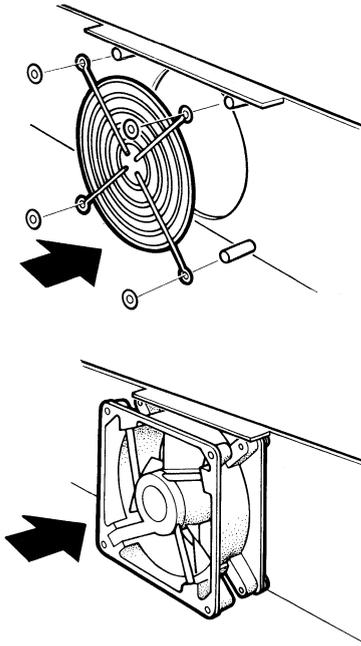

Figure 6-25 Install the Rear Fan
1. Relocate the four screws and place the fan guard on the screws. Make sure the cross members of the fan guard face the inside of the unit (Figure 6-25).